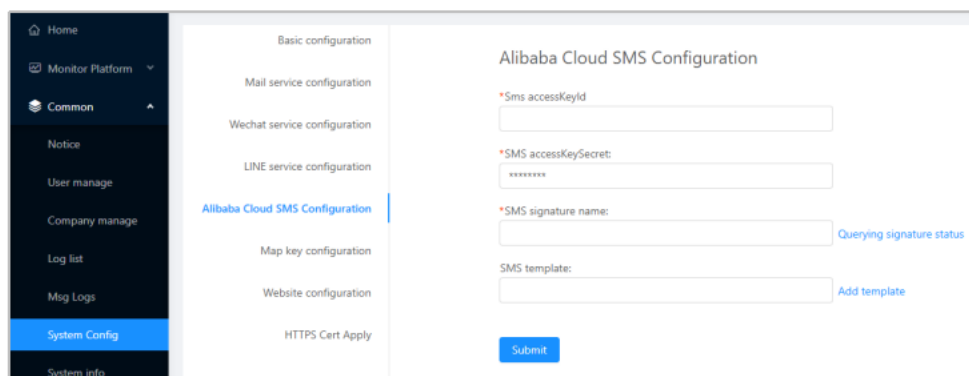

Figure 3-62
- (5) Alibaba Cloud SMS Configuration: Navigate to the "System Config" page and click "Alibaba Cloud SMS Configuration" to configure the Alibaba Cloud SMS service, as shown in Figure 3-62.